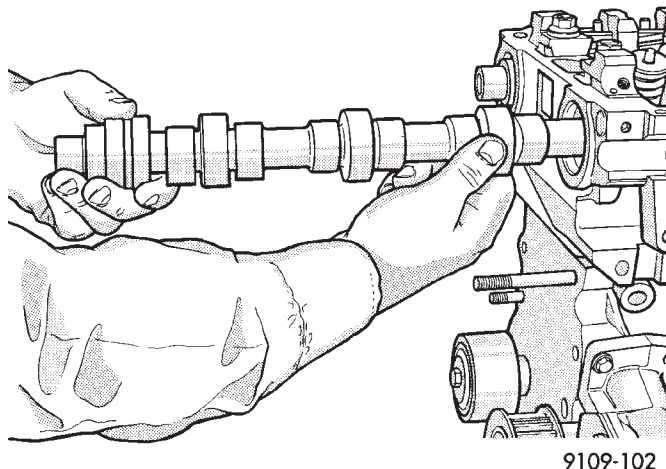

Fig. 4 Camshaft—Removal or Installation
(6) Slide the camshaft out of the cylinder head. Be careful not scratch the bearing surfaces in the head (Fig. 4).
Camshaft lobe wear should not exceed .25mm (.010 inch). To measure cam lobe wear (Fig. 4), measure lobe diameter in two places at the largest diameter (over the nose). Take first reading with micrometer in unworn area at the edge of the lobe. Take second reading in the worn area where rocker arm contacts the lobe. Subtract second reading from the first. The difference is the cam lobe wear.